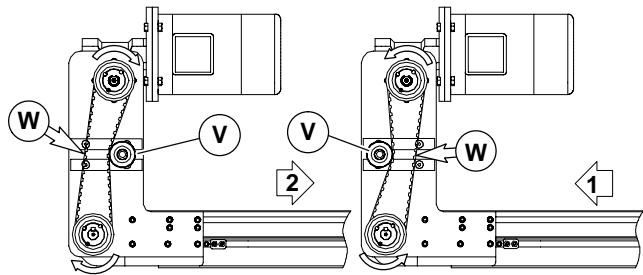

Figure 9
8. Depending on conveyor belt travel (direction 1 or 2), locate timing belt tensioner (V of Figure 9) as shown. Tension timing belt to obtain 3 mm deflection for 3 kg of force at timing belt mid-point (W). Tighten tensioner screw to 12 Nm.
3. Depending on conveyor belt travel (direction 1 or 2), locate timing belt tensioner (V of Figure 9) as shown. Tension timing belt to obtain 3 mm deflection for 3 kilograms of force at timing belt mid-point (W). Tighten tensioner screw to 12 Nm.
5. Depending on conveyor belt travel (direction 1 or 2), locate timing belt tensioner (V of Figure 9) as shown. Tension timing belt to obtain 3 mm deflection for 3 kilograms of force at timing belt mid-point (W). Tighten tensioner screw to 12 Nm.